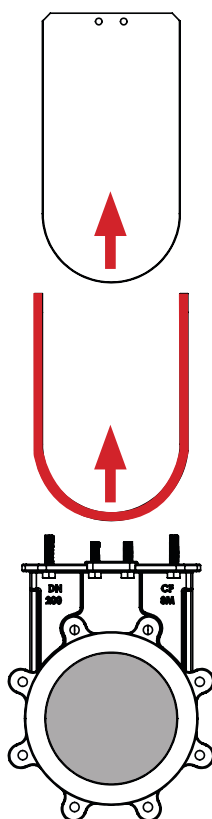

Figure 5
24.7.4 Remove Gate and Resilient Seat and replace parts if required. (Figure 5)